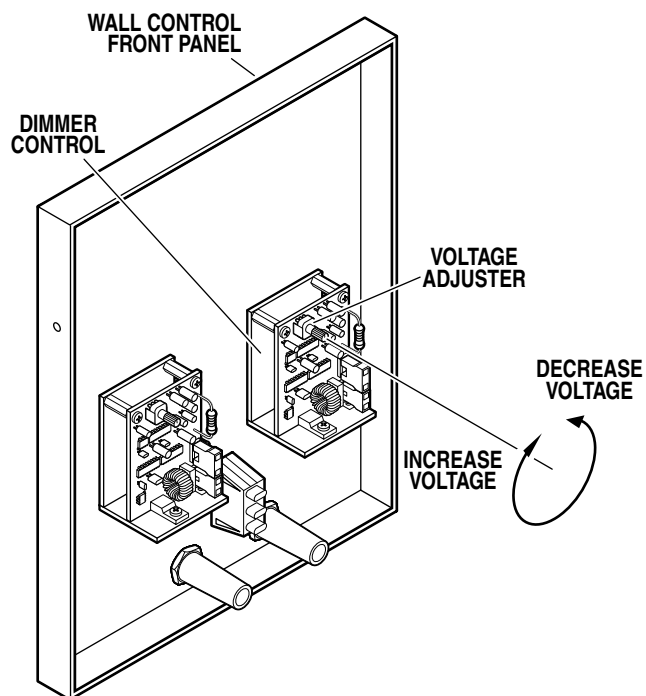

Figure 2-15. Voltage Adjustment
b. Adjust the voltage to the lighthouse by turning the adjuster on the back of the appropriate dimmer control in the wall control. See figure 2-15.